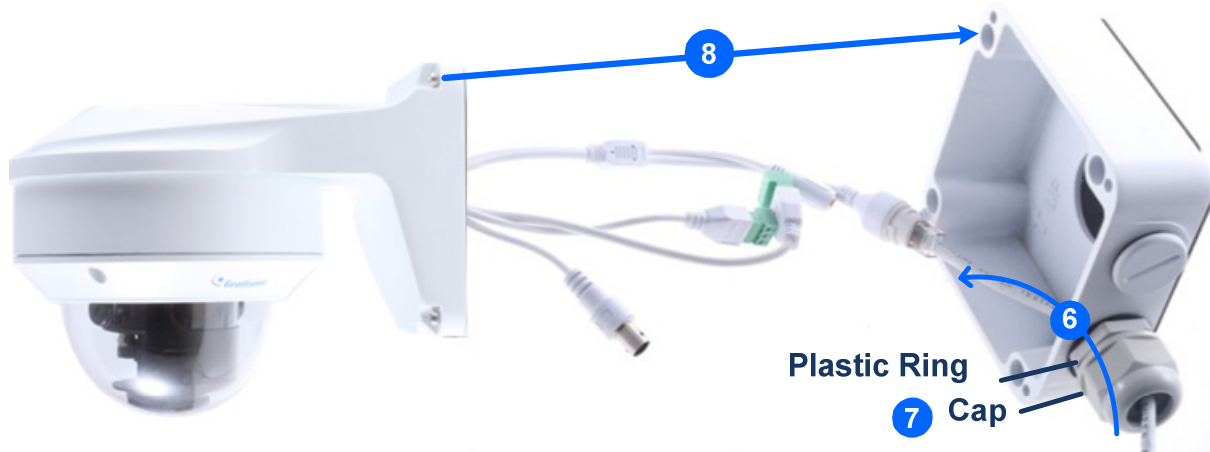

Figure 1-82
6. Thread the Ethernet cable through the PG21 conduit connector and the power box, as shown in No 6, *Figure 1-82*. Then connect the cable to the camera.
7. Rotate the plastic ring to secure the conduit connector to the power box. Screw in the cap shown in No 7, *Figure 1-82*.
8. Screw the wall mount bracket to the power box, as shown in No. 8, *Figure 1-82*.